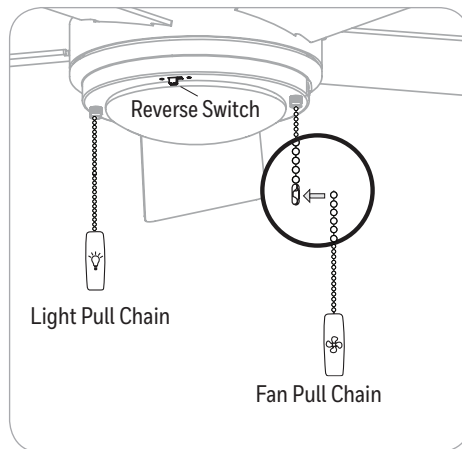

Figure 5.8
8. Attach pull chain extensions to the pull chains. **Note:** When facing the reverse switch the fan pull chain is on the right and the light pull chain is on the left (Figure 5.8).